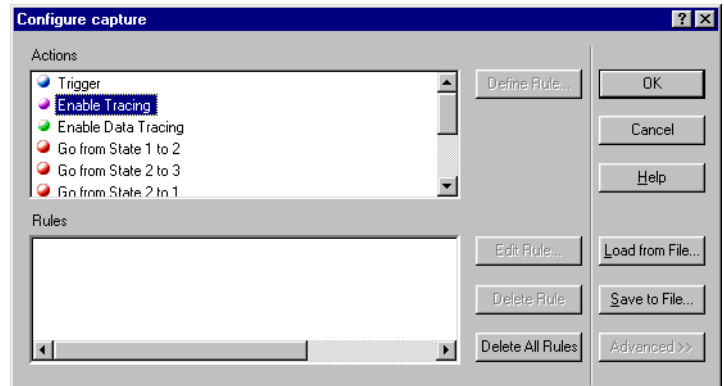

Figure 8-7 Configure capture dialog box
- Set the tracing conditions by selecting **Configure Capture** from the **Trace** menu. The **Configure capture** dialog box is shown in Figure 8-7.